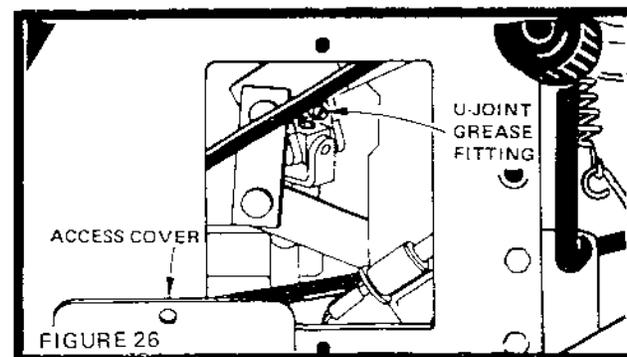

FIGURE 26
- Remove Access Cover (Fig. 26).